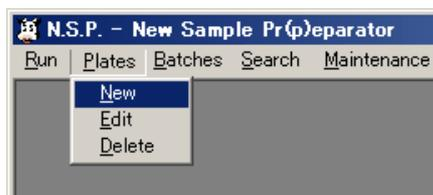

Fig. 5.3-1 : Delete a sample plate
(1) Select “Delete” from the “Plates” menu (Fig 5.3-1).